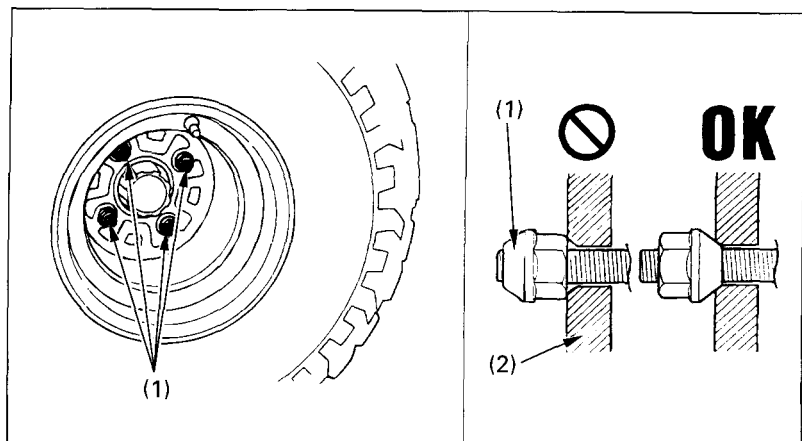

Fig. 4-32 (1) Wheel nuts
2. Loosen the wheel nuts (Fig. 4-32) with a 17 mm socket wrench.